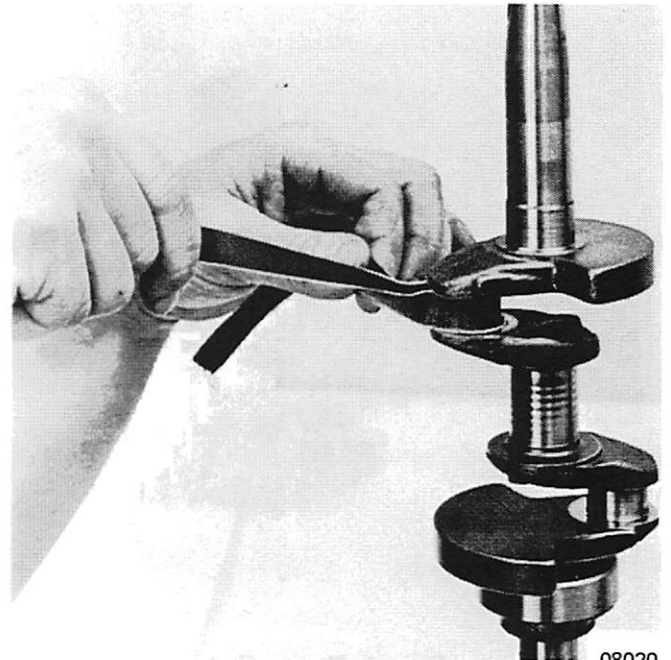

Figure 2. Cleaning Crankshaft Journal
2. The crankshaft journal can be cleaned, if necessary, by using a 320 grit carborundum cloth. (Figure 2) DO NOT polish crankshaft journals or bearings will slide.